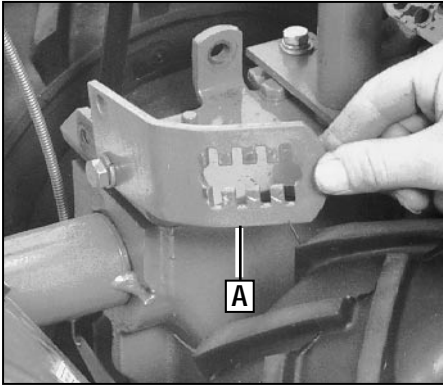

Figure 2-2: Move height bracket aside.
1. On electric start units, remove one screw and lockwasher from the curved height adjustment bracket (A, Figure 2-2), loosen the second screw, and swing the bracket to one side.
4. On electric start units, reattach the height adjustment bracket (A, Figure 2-2). Tighten both screws securely.